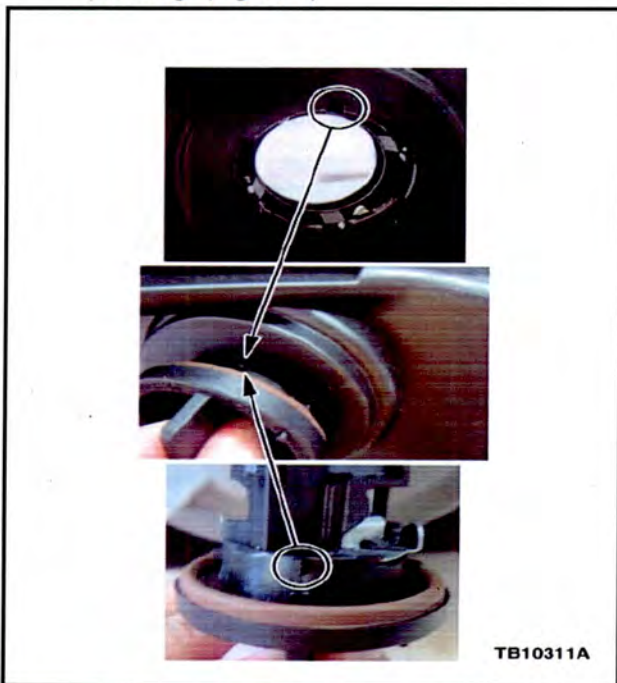

Figure 4 - Article 12-7-12
- b. Insert the new socket and bulb into the headlamp housing. Be sure to line up the small tab on the socket, into the corresponding notch in the headlamp housing. (Figure 4)